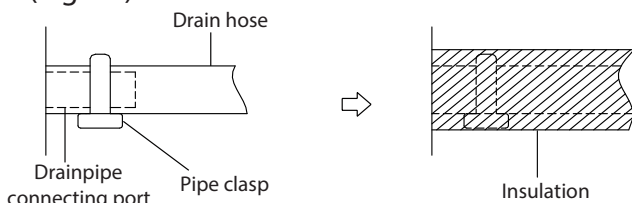

Fig. 5.1
2. Attach the mouth of the drain hose to the unit's outlet pipe. Sheath the mouth of the hose and clip it firmly with a pipe clasp. (Fig 5.1)